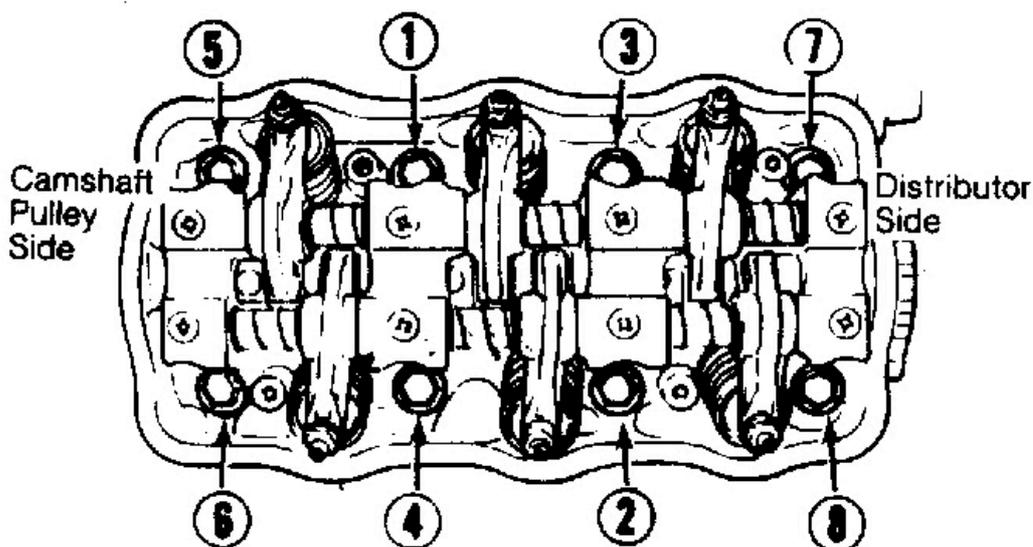

Fig. 3: Cylinder Head Tightening Sequence Courtesy of GENERAL MOTORS CORP.
1. Position cylinder head gasket with "TOP" mark facing up and toward crankshaft pulley side of cylinder block. Position cylinder head on gasket and tighten cylinder head retaining bolts in sequence. See **Fig. 3**.